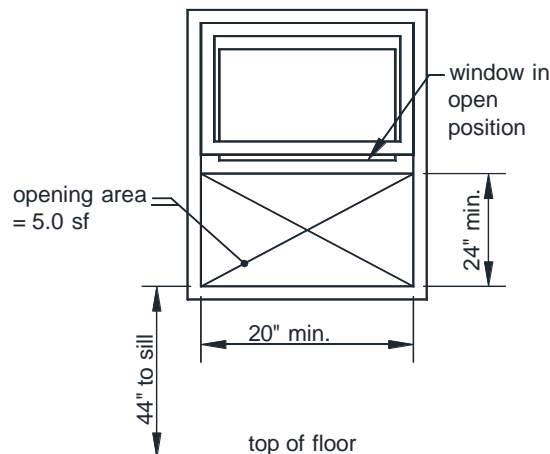

FIGURE 1: EMERGENCY ESCAPE AND RESCUE OPENING
- See FIGURE 1 for typical window opening requirements.